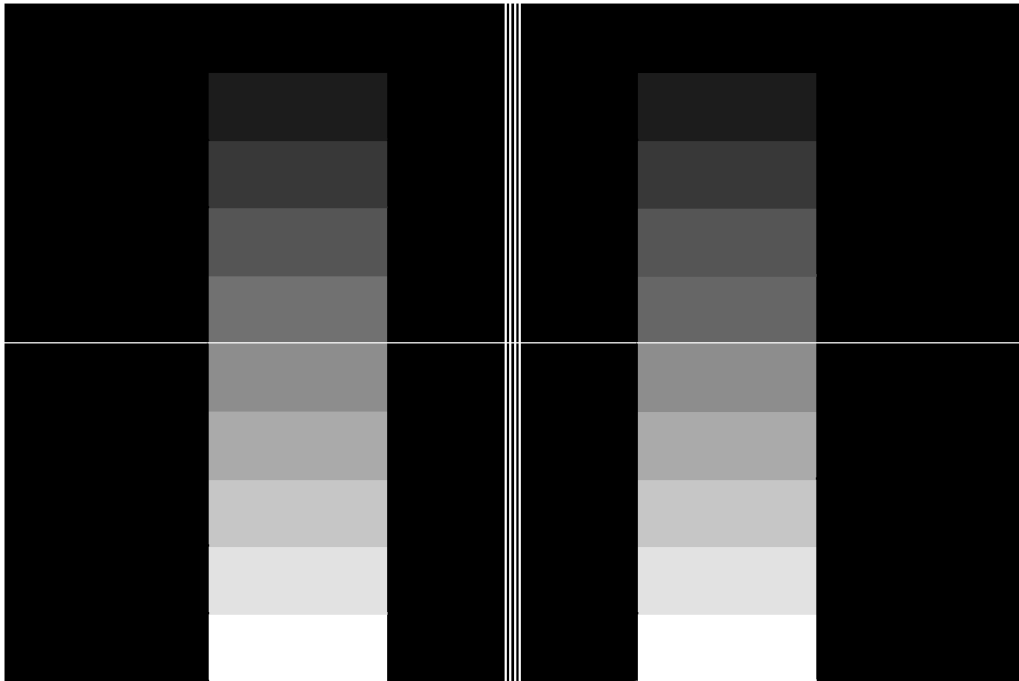

Fig 1
2.1 Test Pattern A (Fig. 1)
Test Pattern A is output via Video Out 1. The pattern consists of two, ten level gray scales, at the left and right of center. Additionally the pattern has four vertical "Focus" lines at the center, a border and a single horizontal line at the center. The displayed pattern shown is Figure 1 and the video timing is shown in Figures 3 and 4.
- 5.2 Pattern A: Two vertical ten level gray scales at left and at right of center, with black at top and white at bottom. Both gray scales are 128 pixels wide and occupy the full vertical frame. The left scale begins at horizontal pixel 119 and the right scale begins at pixel 375. The pattern includes a one pixel white border and a one pixel horizontal line at the center vertically. Also included are four focus lines occupying the full vertical frame and located at the center horizontally. The focus lines are one pixel wide and one pixel apart. The lines start at horizontal pixel 307. (See Figures 1, 3, and 4)